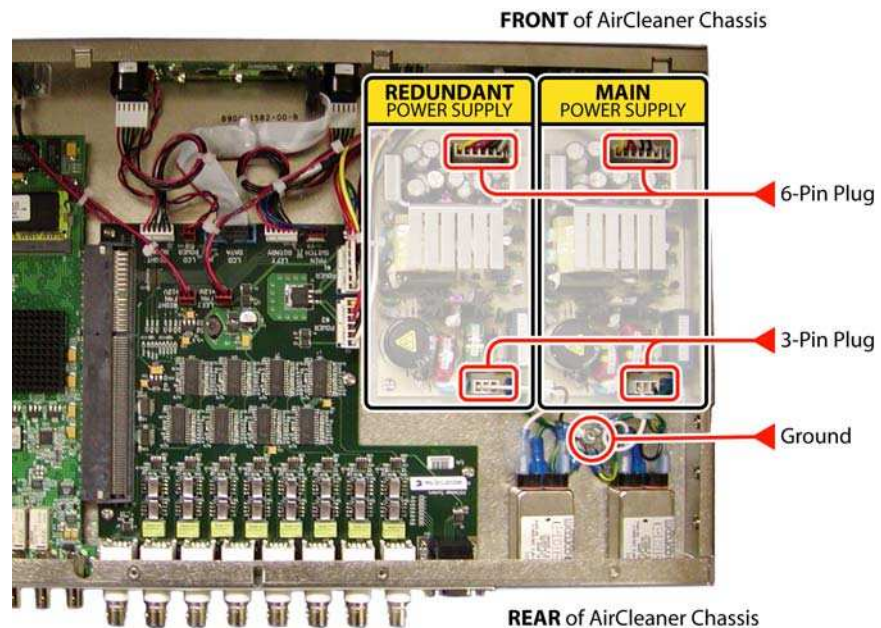

Figure 3-2. Power Supply Module - Location
2. Remove chassis top cover (See “Removing AirCleaner Top Cover” on page 24); determine which power supply needs to be replaced; see Figure 3-2 below.
6. Remove the (4) phillips-head screws that hold down the power supply module.